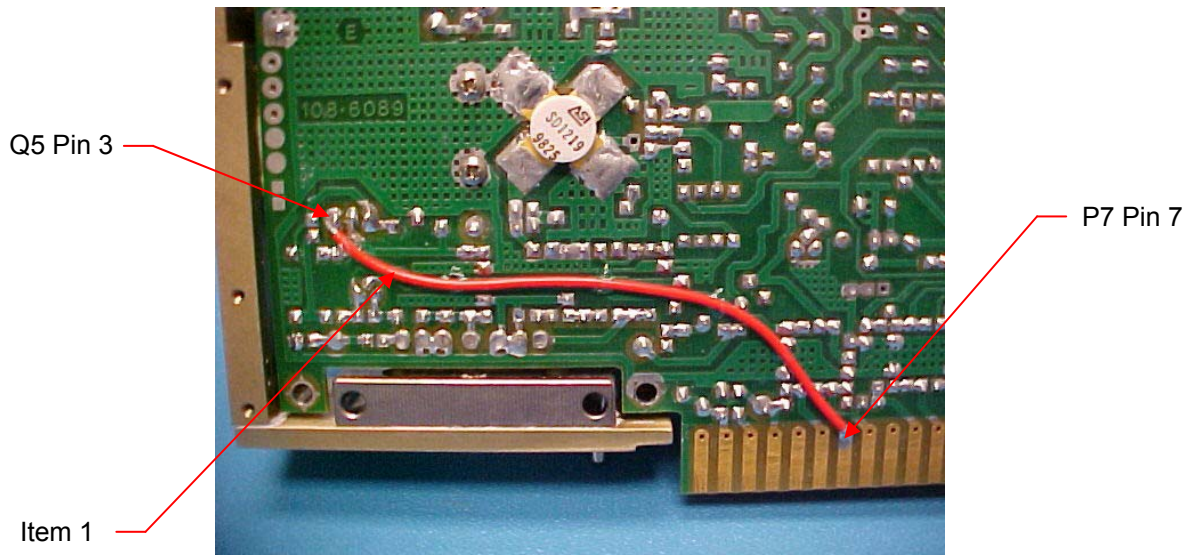

Figure 2B
2. On opposite side of board, run Item 1 from P7 Pin 7 to Q5 Pin 3 as shown in Figure 2B.